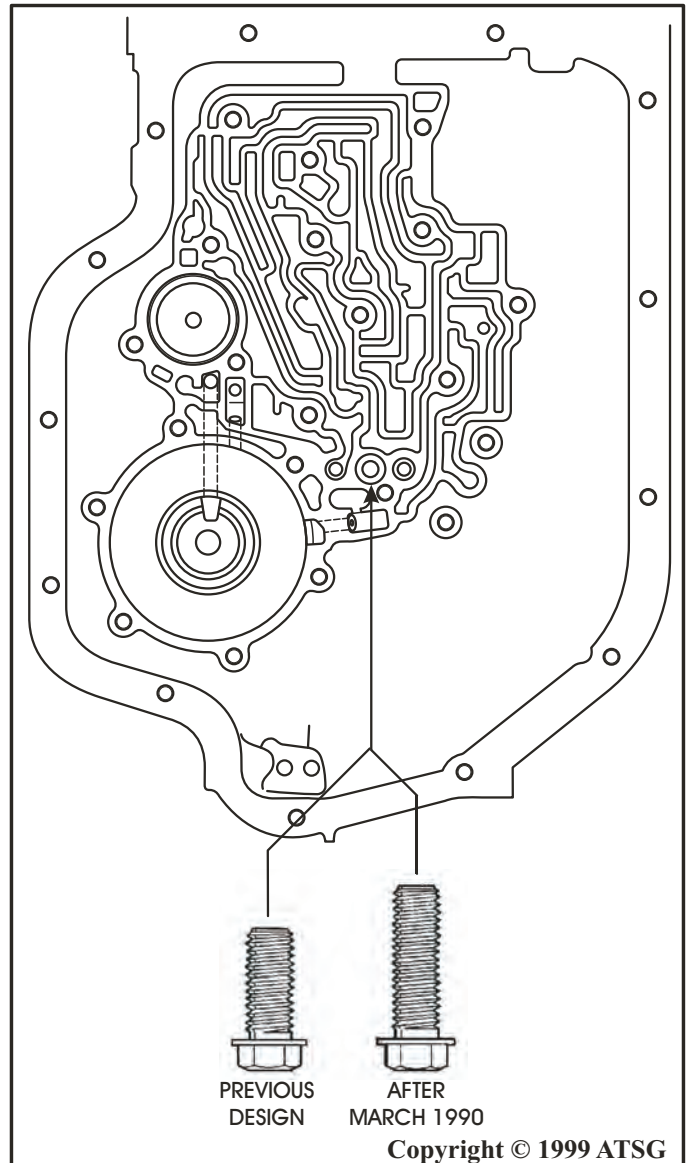

Figure 108
**Note:** There are two different support bolts, as shown in Figure 108. Ensure that your bolt is compatible with both the transmission case and the center support for the model that you are building. 1990 and later cases and center supports require the long bolt.